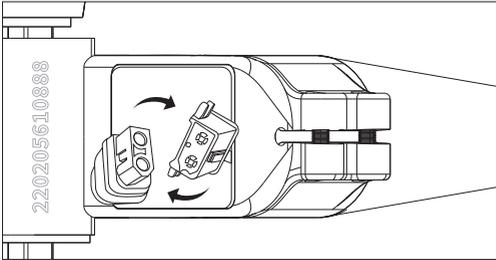

Figure 7-2
- Connect the cable between the battery and the controller, as shown in **Figure 7-2**.